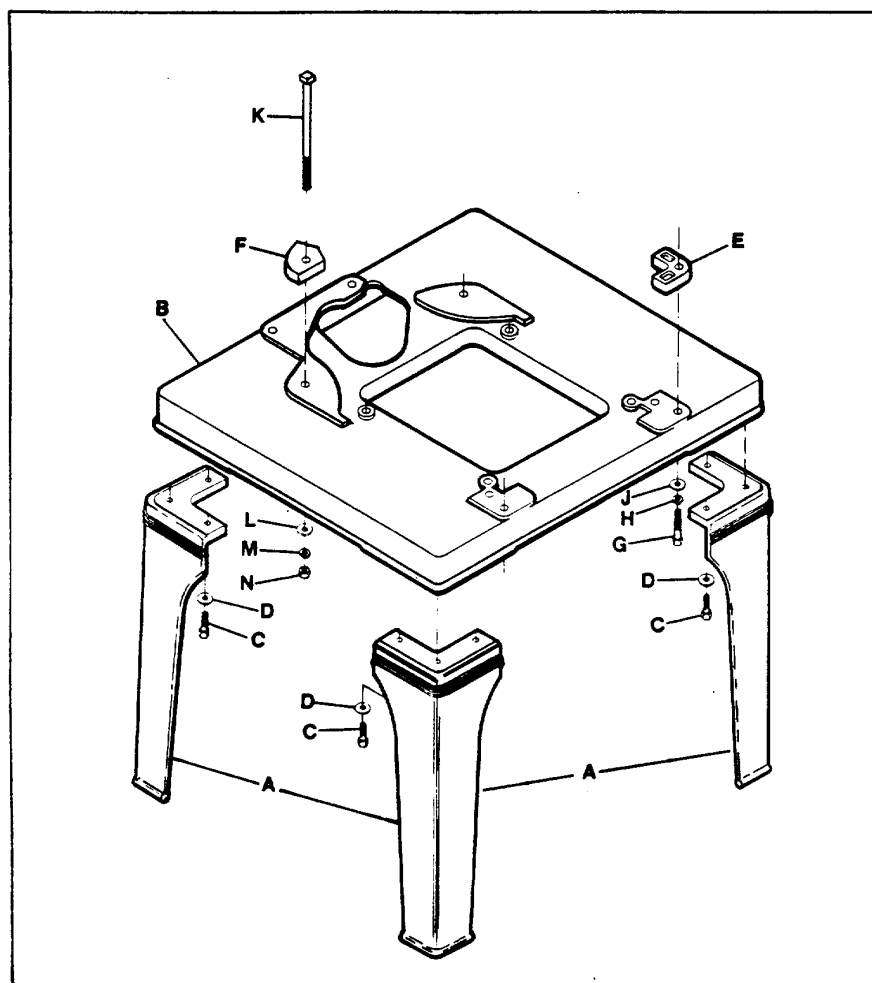

Figure 2
1. Fasten the four legs (A) to the stand base (B) using the twelve 1/2"-13 X 1-1/4" hex head screws (C) and flat washers (D), as shown in fig. 2.
1. Place the two front spacers (E) and two rear spacers (F) in position on top of the stand base, as shown in fig. 2.
2. Place the drill press on the four spacers (E) and (F) making sure the holes in the bottom of the drill press base line up with the holes in the four spacers.
3. Using the two 1/2"-13 X 2-1/4" hex head screws (G), lockwashers (H) and flat washers (J), fasten the front end of the drill press base to the stand. The holes in the bottom front of the drill press base are threaded.
4. Place the two flat washers (L) on the two 1/2"-13 X 9" square head bolts (K) and insert the bolts down through the top of the drill press base through the holes in the spacers (F) and through the holes in the rear of the stand. Fasten in place using the lockwasher (M) and jam nut (N), fig. 2.